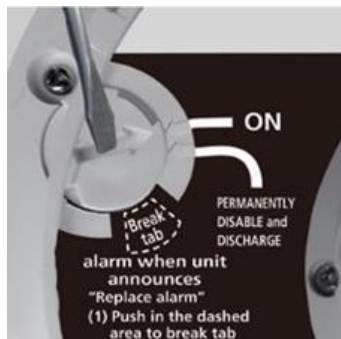

Figure 6
3. After the tab is broken, use the screwdriver to turn the slotted arrow to the "Permanently Disable Detector/Discharge Battery" location. This will disable the detector, stop the low battery or end of unit life "chirps" and render the detector safe for disposal by draining the battery. Reference FIGURE 6.